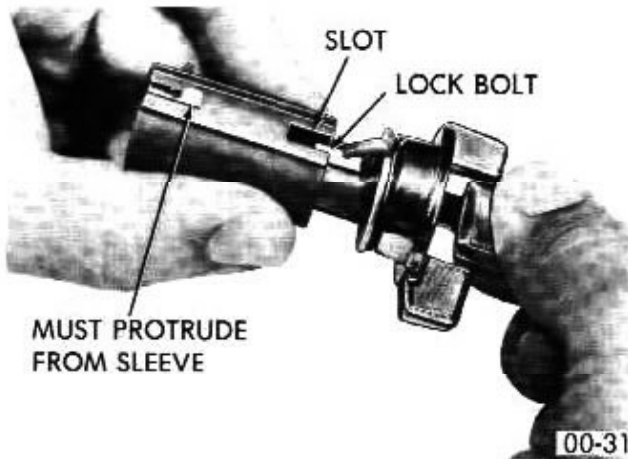

Figure 00-5 Ignition Lock - Assembly
3. Align the lock bolt on the lock cylinder and the tab on the anti-theft washer with the slot in the sleeve assembly. Push the sleeve all the way onto the lock cylinder assembly, push the ignition key the rest of the way in and rotate the lock cylinder clockwise. See Figure 00-5.